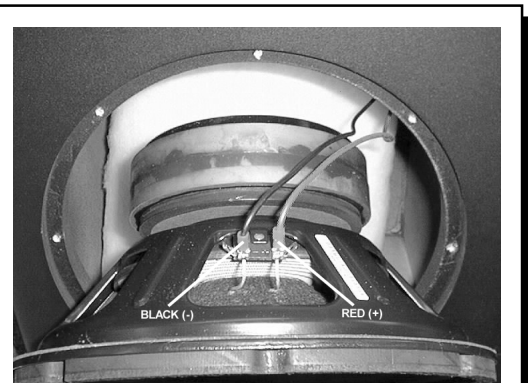

FIG. 2
1. Remove (8) screws from woofer using a Phillips screwdriver
3. Disconnect (2) speaker wires (**FIG. 2**)